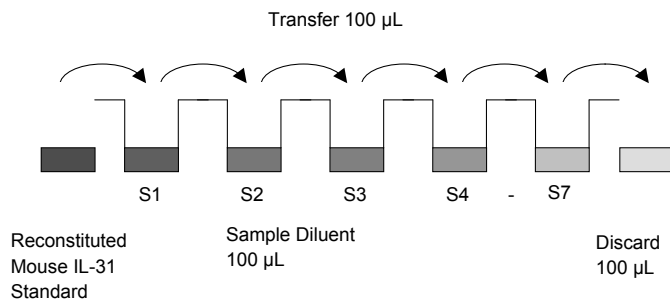

Fig. 7 Dilute standards - microwell plate
- Standard dilution on the microwell plate (Alternatively the standard dilution can be prepared in tubes - see "External standard dilution" on page 3): Add 100 μL of Sample Diluent in duplicate to all standard wells. Pipette 100 μL of prepared standard (see "Mouse IL-31 standard" on page 3, concentration = 2000.0 pg/mL) in duplicate into well A1 and A2 (see Table 1). Mix the contents of wells A1 and A2 by repeated aspiration and ejection (concentration of standard 1, S1 = 1000 pg/mL), and transfer 100 μL to wells B1 and B2, respectively (see Figure 7). Take care not to scratch the inner surface of the microwells. Continue this procedure 5 times, creating two rows of mouse IL-31 standard dilutions ranging from 1000 to 15.6 pg/mL . Discard 100 μL of the contents from the last microwells (G1, G2) used.